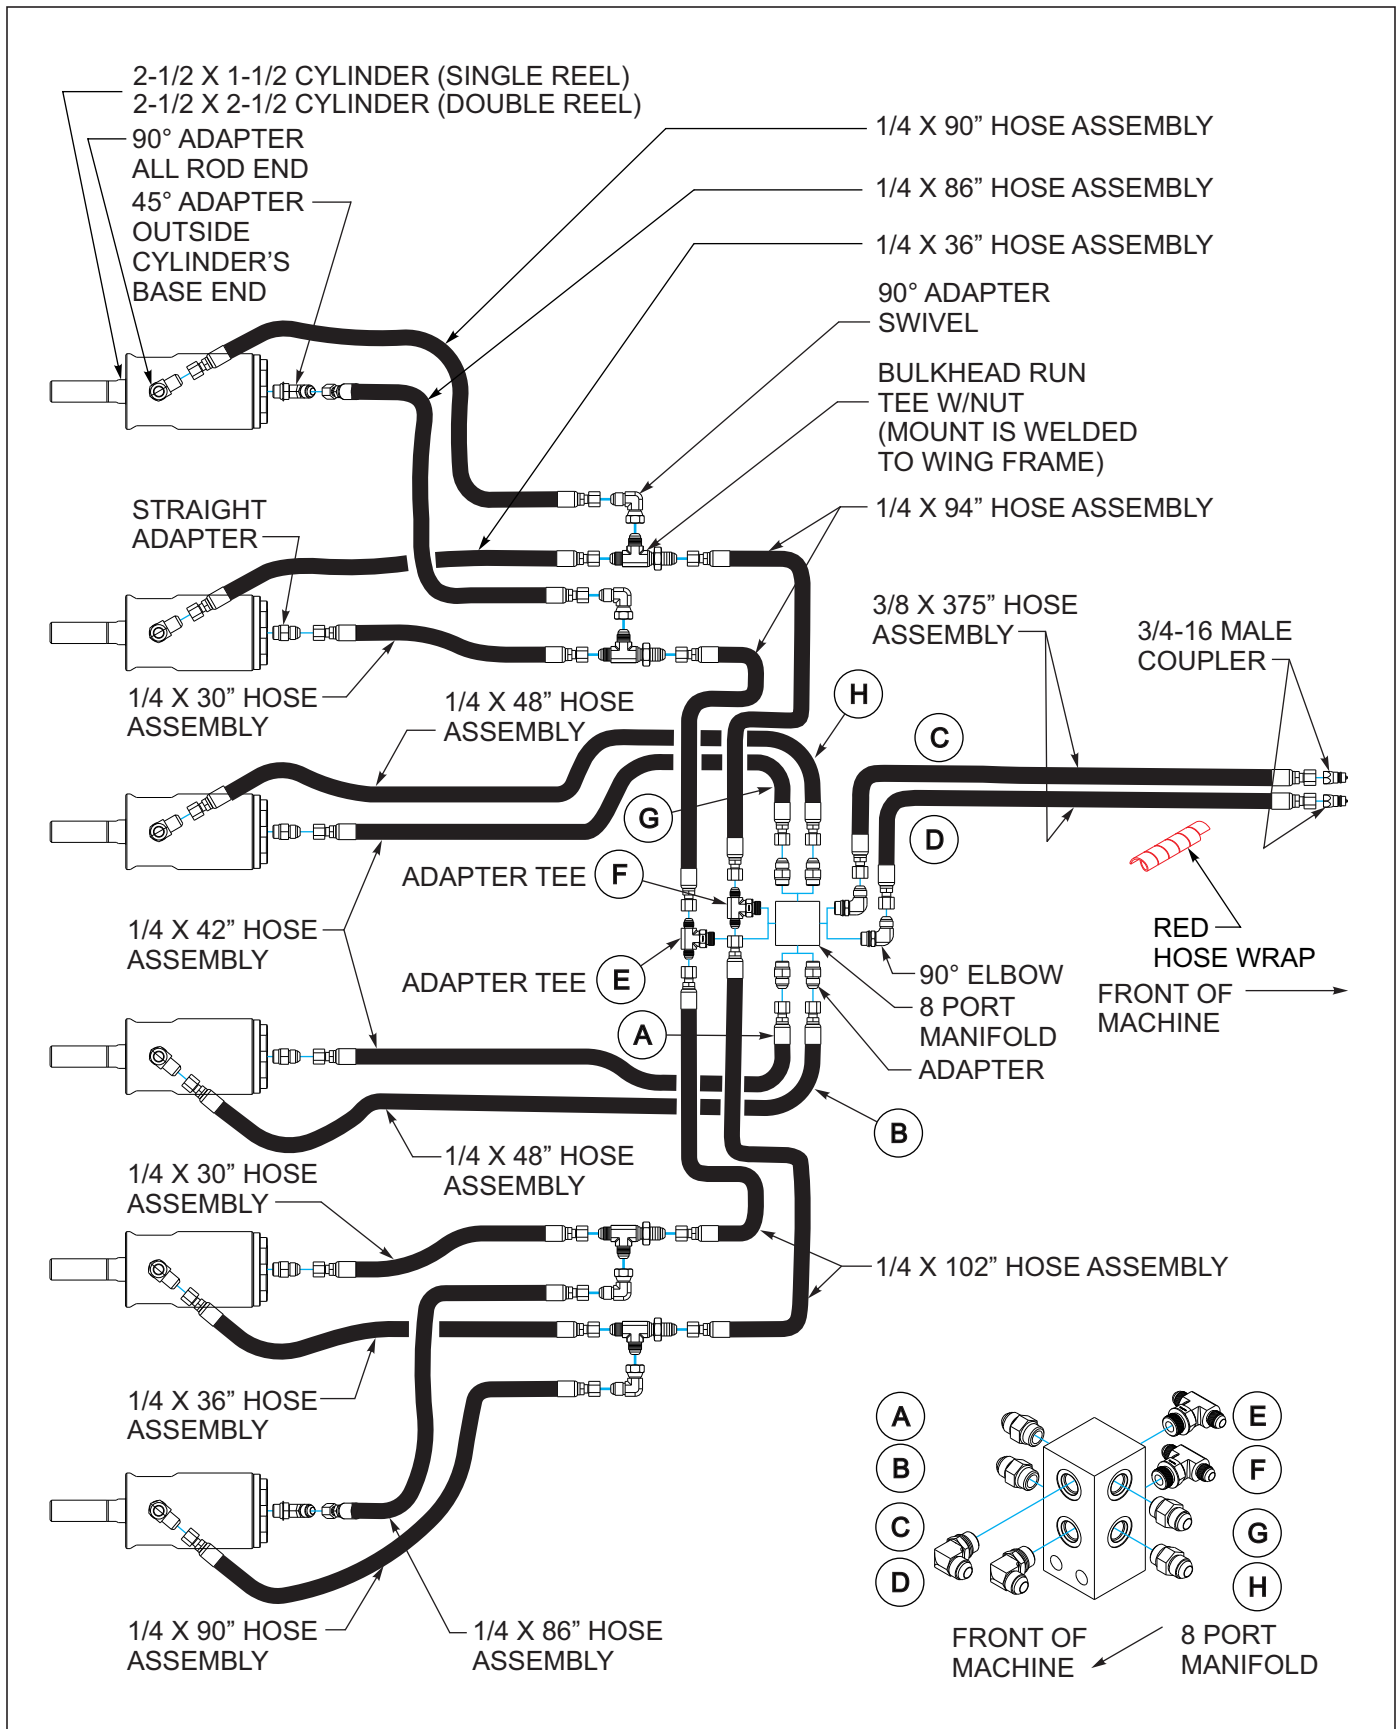

Figure 3-51: Reel Hydraulic Installation 7530-26'
Refer to **Figure 3-51** for hydraulic diagram for the 7530-26 model.
7. Install cylinders, fittings and hoses per Figures 3-51 thru 3-52.